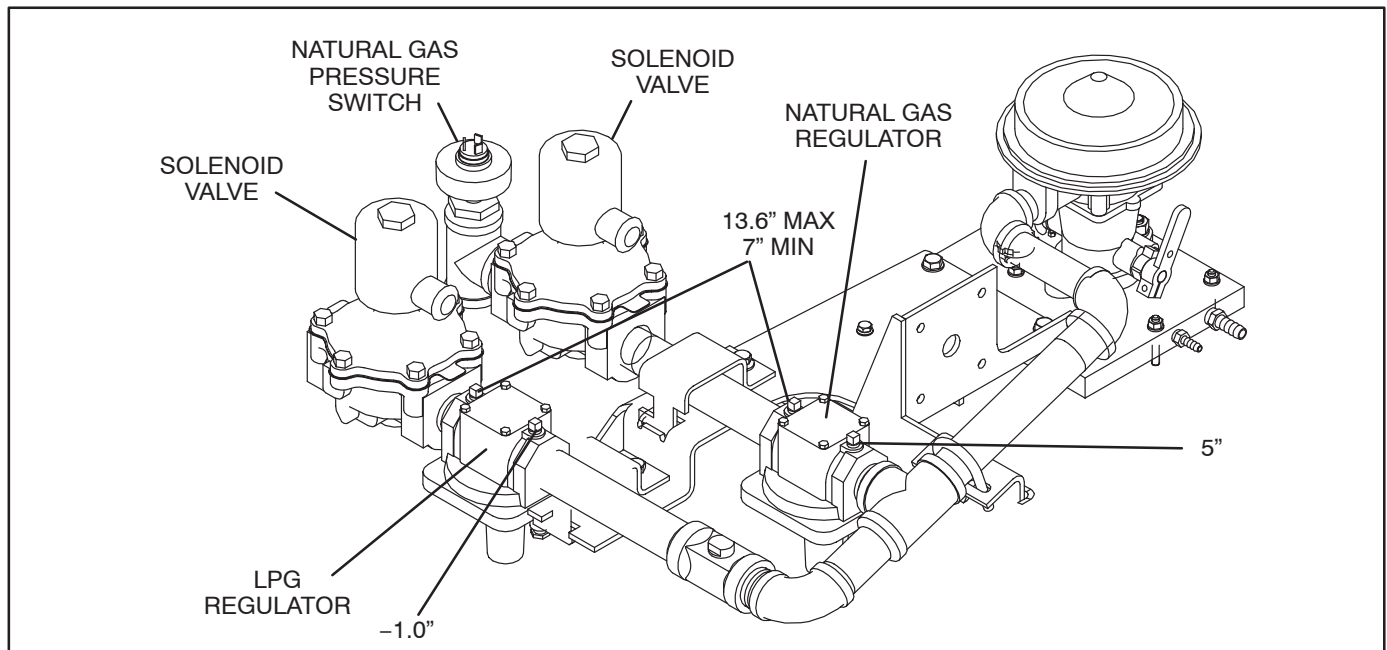

FIGURE 6-1. TYPICAL FUEL PRESSURE TEST LOCATIONS
2. Check the dip switch settings (Figure 6-1) to make sure they are properly set, as follows: